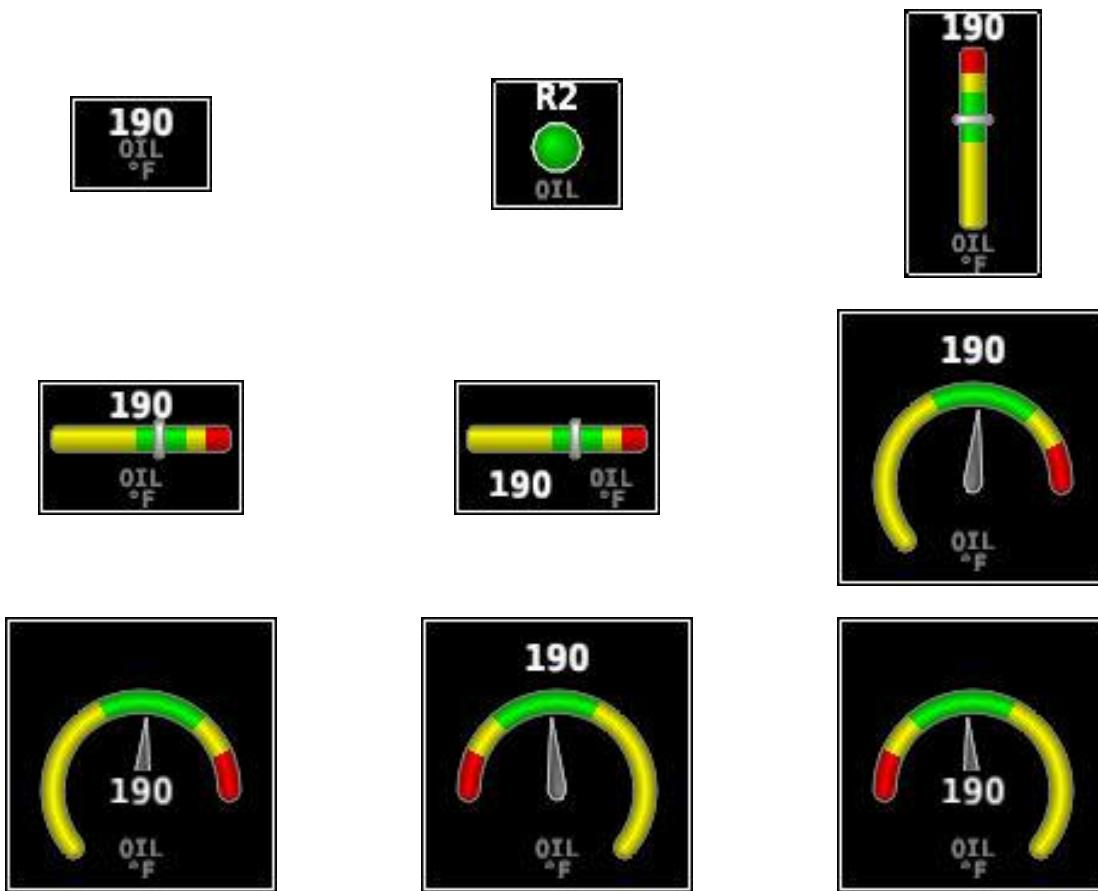
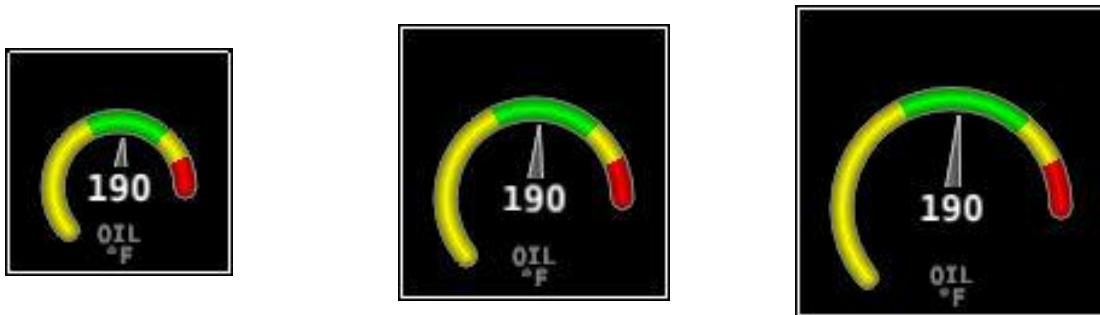

Figure 99: Example of Oil Temperature Widget Styles
Figure 100: Example of Oil Temperature Widget Sizes
If one SkyView display is being used as a dedicated Engine page with a 100% page layout, installer may consider using individual widgets to display the functions listed above. Individual widgets are selected from the SCREEN LAYOUT EDITOR's SENSOR list and are labeled Function (1) and Function (2). The Function (1) widget is linked to the EMS module installed for the left engine, which is configured as ENGINE #1 EMS in SETUP MENU > EMS SETUP > DUAL EMS SETUP. The Function (2) widget is linked to the right engine EMS module (ENGINE #2 EMS). These widgets come in the same style and size variations as shown in Figure 99 and Figure 100.